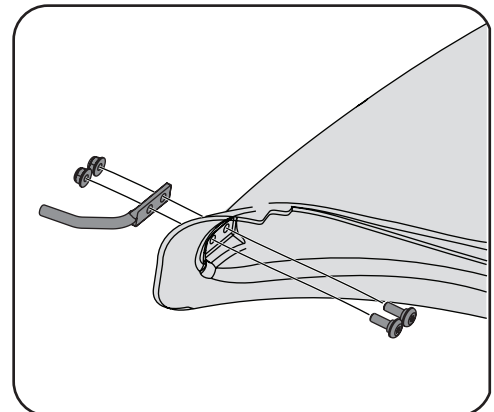

Figure 4-20
1. Install the boot rod mount (747-06043) to the boot using 2 shoulder screws (738-1225) and 2 flangelock nuts (712-04064) from hardware pack 689-00636. Ensure that the shoulder screws (738-1225) are installed on the interior of the boot. See Figure 4-20.